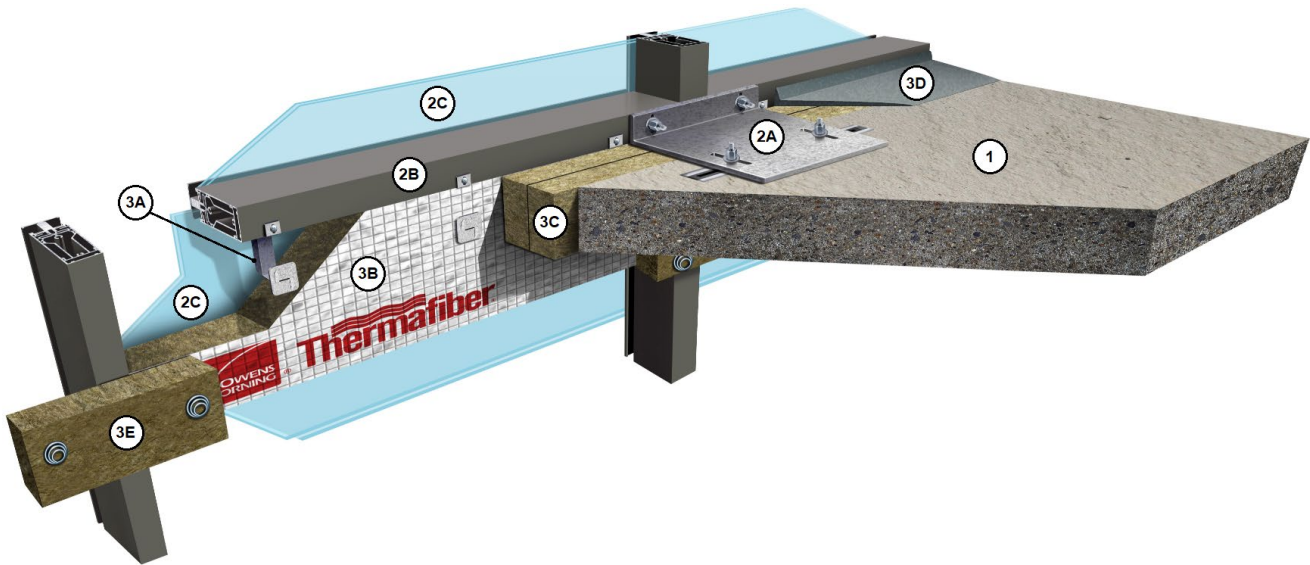

Figure 1. Perimeter Fire Barrier
- B. **SPANDREL INSULATION** - Intertek-Certified, Thermafiber® FireSpan® 120: Install minimum 3 in. thick spandrel insulation tightly fit into the spandrel areas which are framed out by the aluminum framing members (bottom spandrel framing not shown in Figure 1.). The foil-scrim side of the insulation shall be installed facing toward the concrete floor assembly. Use No. 10 or No. 12 self-drilling screws to secure the insulation hangers to the transom (horizontal aluminum framing member) forming the upper part of the spandrel area.